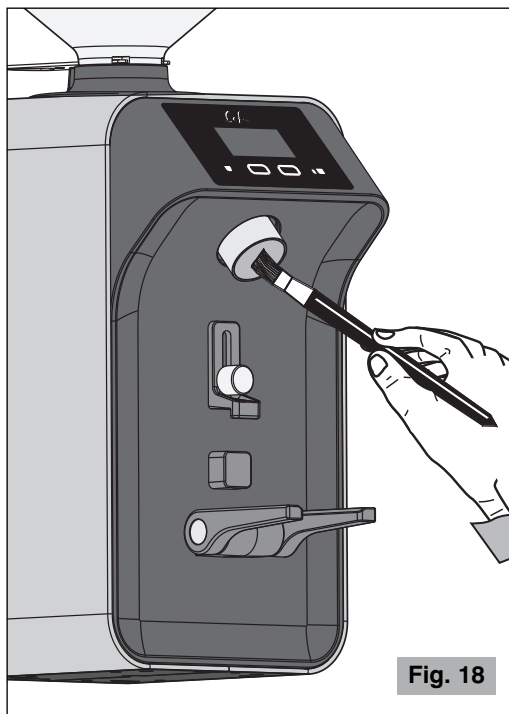

Fig. 18
- Use a brush or a paintbrush (Fig. 18) to clean the most hidden areas inside the unit and a dry cloth for the other surfaces.